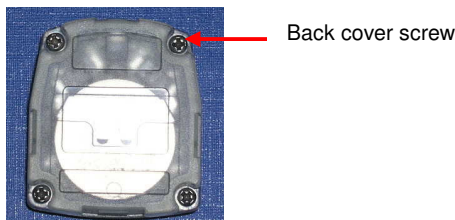

Figure 1: ETC Tag (showing screws)
3. Unscrew the 4 screws situated at the back of the tag and remove the back cover from the (Figures 1 and 2).